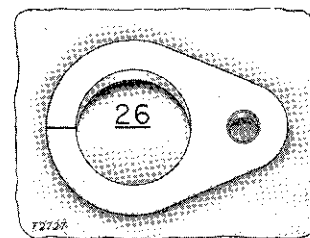

Fig. 40-10-7—Flywheel Timing Mark
1. Uncover timing hole located on distributor side of clutch housing (Fig. 40-10-7).
3. Turn engine very slowly. Place thumb in spark plug port of No. 1 (front) cylinder. Turn engine until considerable air pressure is felt against thumb; then continue turning until "26" mark on flywheel lines up with marks on side of timing hole (Fig. 40-10-7). Do not reverse rotation of engine if "26" mark goes past hole; instead, repeat procedure.